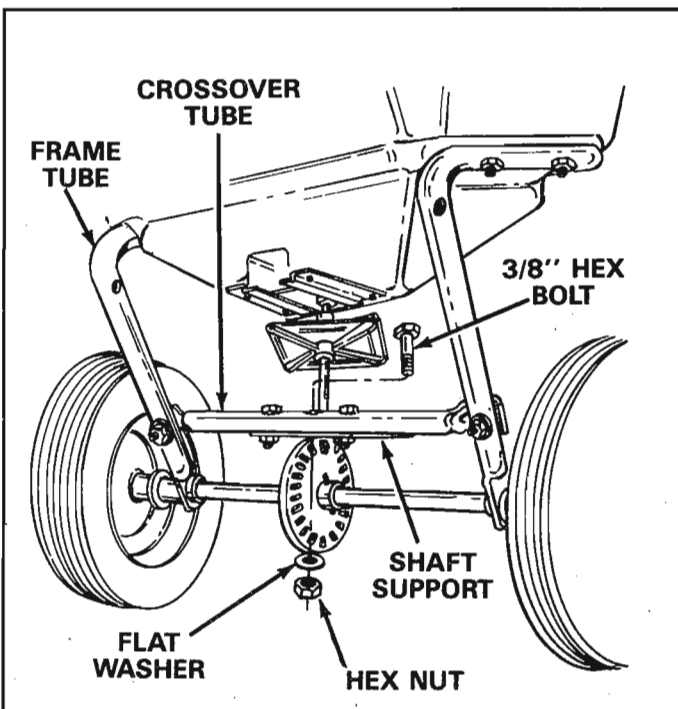

FIGURE 7
- Remove the 3/8" hex bolt, flat washer and hex lock nut from the center of the crossover tube. See figure 7.
- Place the handle tube (long) on the crossover tube, align the holes in handle tube, crossover tube and shaft support. Assemble with 3/8" hex bolt, flat washer and hex nut removed in step 8. See figures 7 and 8. **MAKE ONLY FINGER TIGHT AT THIS TIME.**